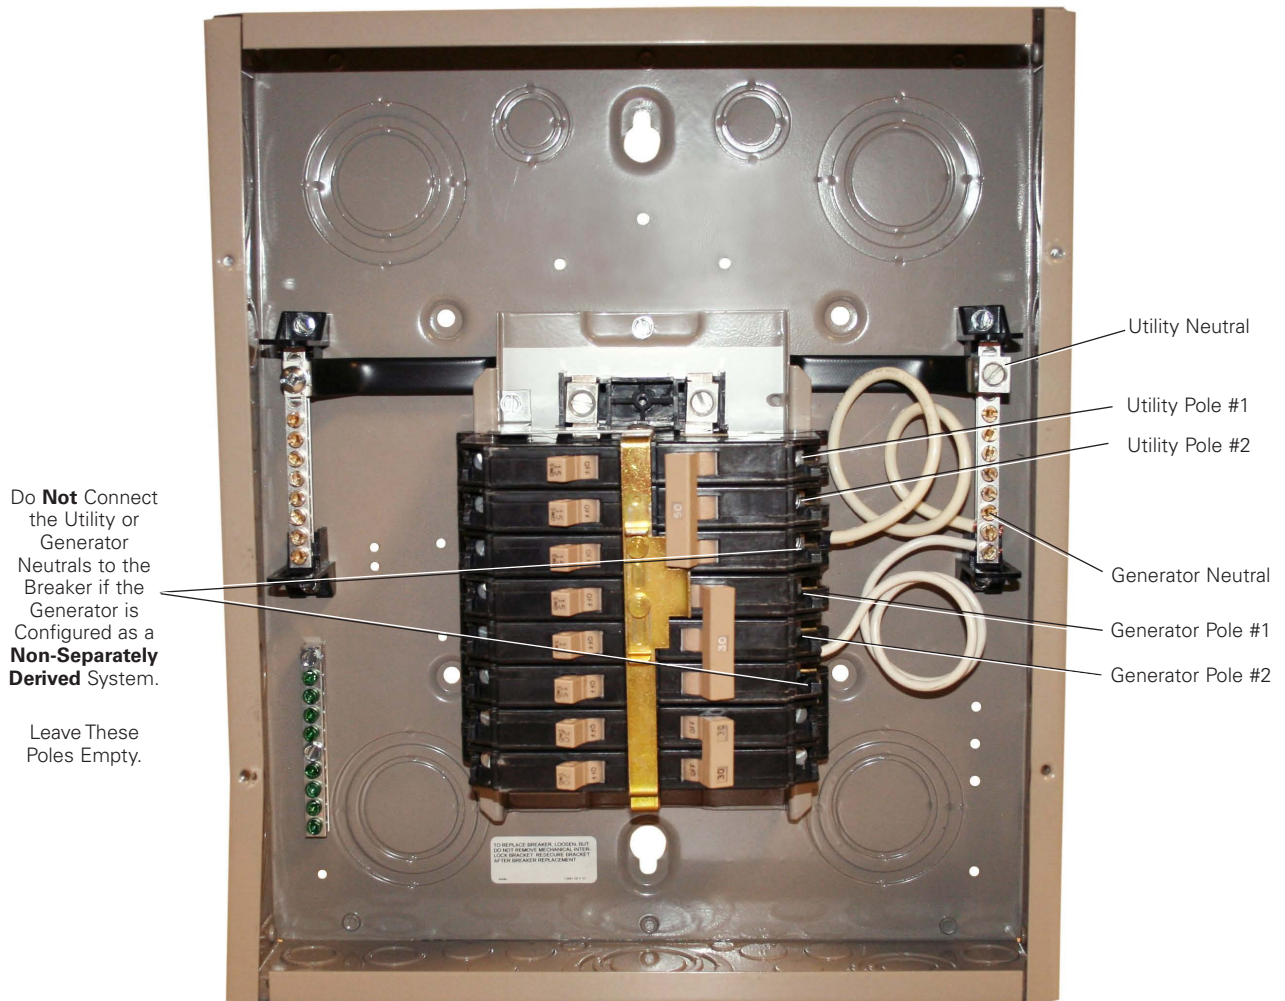

Figure 3. Connection Locations for a Separately Derived System.
- a. Connect the two hot wires from the utility to the utility breaker poles #1 and #2. Connect the utility neutral to the utility neutral lug. See Figure 3 for clarification.
- b. Connect the two hot wires from the generator to the generator breaker poles #1 and #2. Connect the generator neutral to the neutral bar. See Figure 3 for clarification.